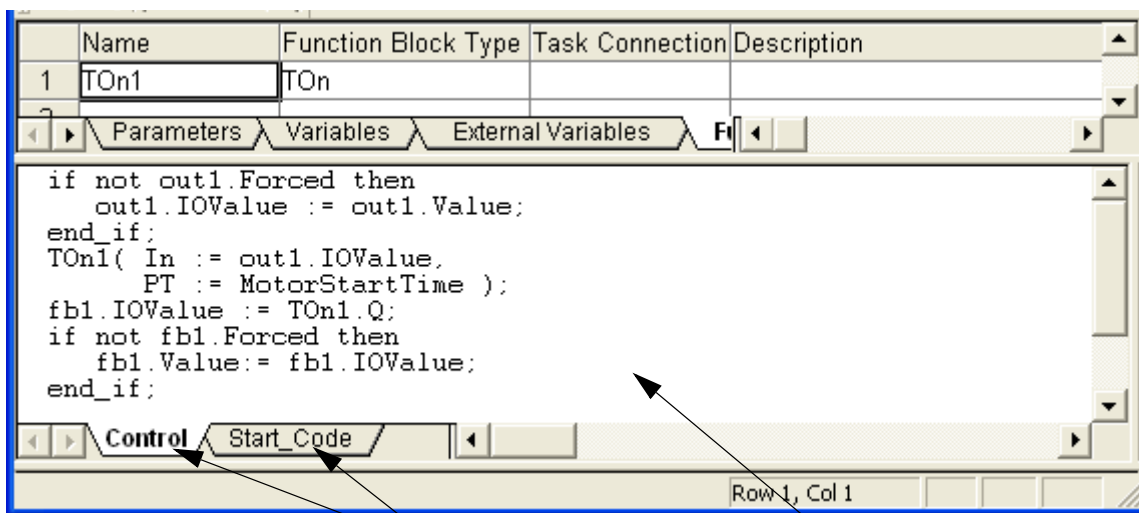

Figure 6. A programming editor with two code blocks.
- Programming editor for programming code (see Figure 6).
Figure 6 illustrates part of a programming editor where you can write code in one of the five programming languages, according to the IEC 61131-3 standard. (In our examples, we use Structured Text, ST). The programming editor is always active, and can be reached irrespective of which tab is selected (parameters, variables, function blocks, etc.).